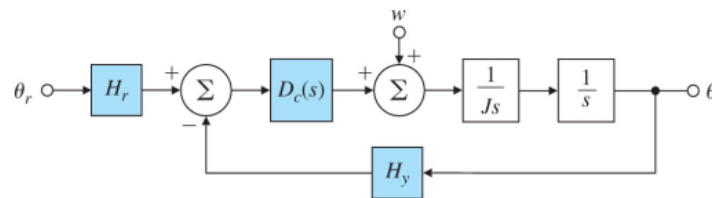

Figure 4.45: Satellite attitude control
4.34 Consider the satellite-attitude control problem shown in Fig. 4.45 where the normalized parameters are